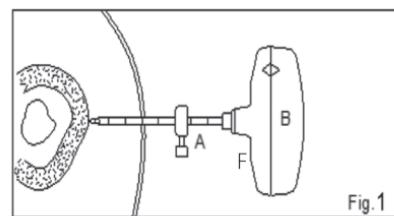

Fig.1
FIG. 1 Depending on the depth of the bone to be reached, adjust the depth gauge on the Cutting Cannula (A) to the appropriate centimeter marker and tighten to provide a visual guide. Introduce, rotating counterclockwise, the assembled Cutting Cannula and Stylet and Handle (A+B+F) until engaged with the bone surface.